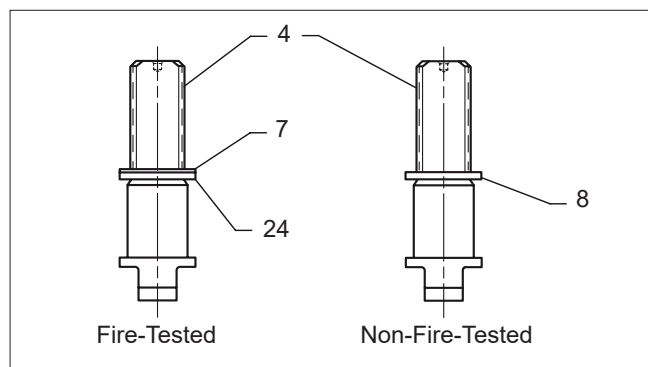

Figure 5. Stem and Seal Subassembly
- A. Slide the lower stem seal (24) and secondary stem seal (7) (for fire-tested valves), or lower stem seal (8) (for non-fire-tested valves), over the threaded portion of the stem (4). The stem and seal subassembly must look like **Figure 5**.